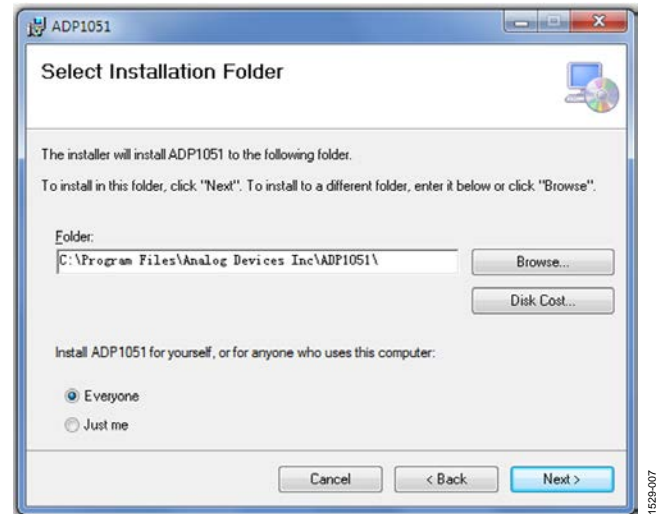

Figure 7. GUI Installation
3. Click through the following windows (such as Figure 7).